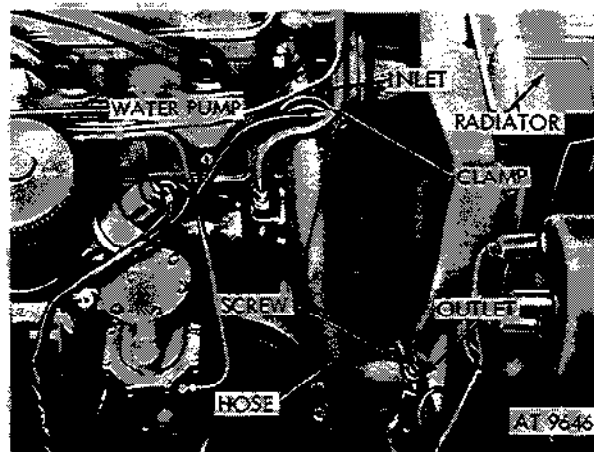

Figure 2-133. Remove lower radiator hose.
(2) Loosen clamps and pull hose from water pump inlet and from radiator outlet (fig. 2-133).
b. *Installation.* Clean hose connections before installing hoses. Install hoses by reversing removal operations. Refer to figure 2-133 and 2-132.
(4) Loosen radiator hose clamp and pull outlet hose from radiator (fig. 2-133).